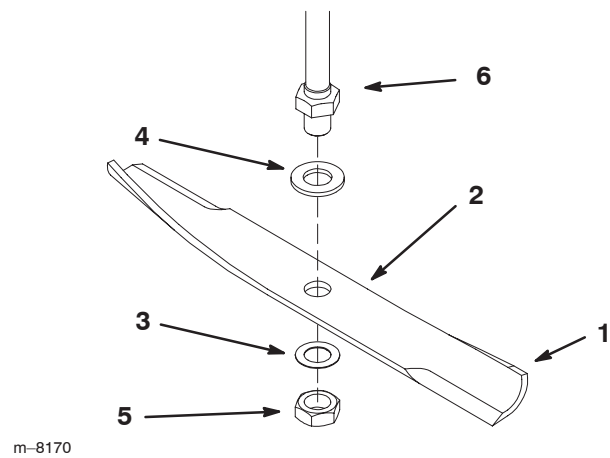

Figure 27
Hold the blade end using a rag or thickly-padded glove. Remove the blade nut, small flat washer, blade, and large flat washer from the spindle shaft (Fig. 27).
1. Install the large flat washer and the blade onto the spindle shaft (Fig. 27).
2. Install the small flat washer, and the blade nut (Fig. 27). Torque the blade nut to 80–100 ft-lb (108–135 N·m).